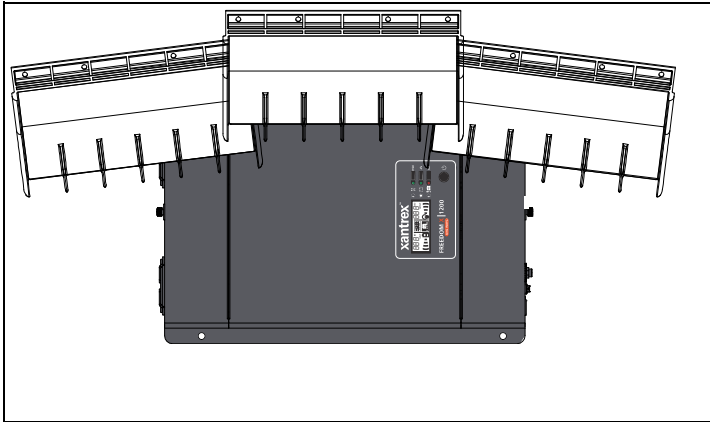

Figure 9 Typical Drip Shield Placement on a Freedom X
2. Locate an appropriate setting for the drip shields above the Freedom X making sure you cover the entire width of the unit. You can overlay the shields as shown in Figure 9 below.